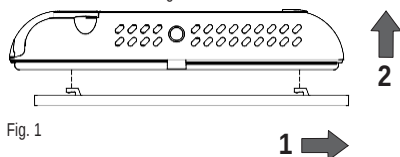

Fig. 1
- 1 Release the wall mount plate fitted under the base of the chronostat as shown in Fig. 1.